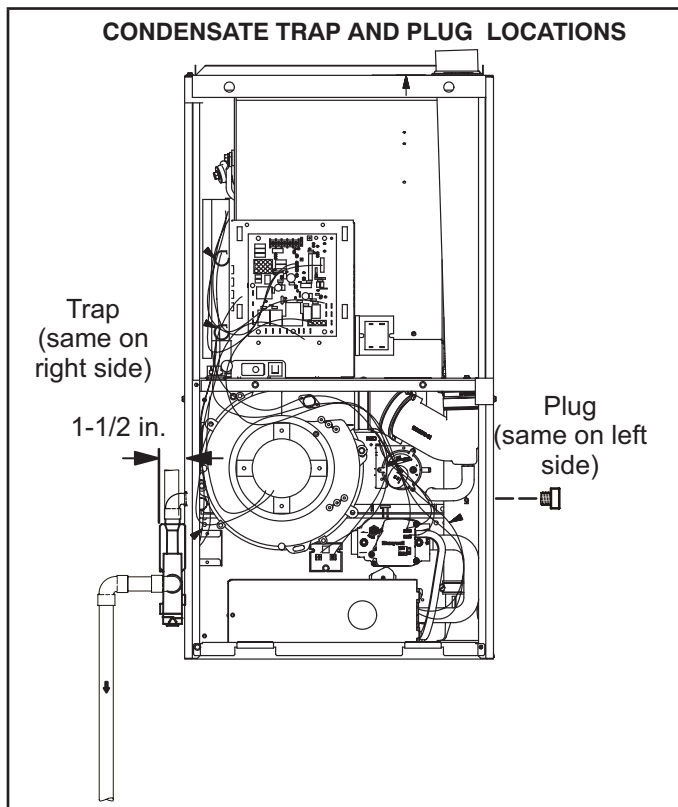

FIGURE 40
This unit is designed for either right- or left-side exit of condensate piping. Refer to FIGURE 40 and FIGURE 42 for condensate trap locations.
- 2 - For furnaces with a 1/2" drain connection use a 3/8 allen wrench and remove plug (FIGURE 40) from the cold end header box at the appropriate location on the side of the unit. Install field-provided 1/2 NPT male fitting into cold end header box. For furnaces with a 3/4" drain connection use a large flat head screw driver or a 1/2" drive socket extension and remove plug. Install provided 3/4 NPT street elbow fitting into cold end header box. Use Teflon tape or appropriate pipe dope.